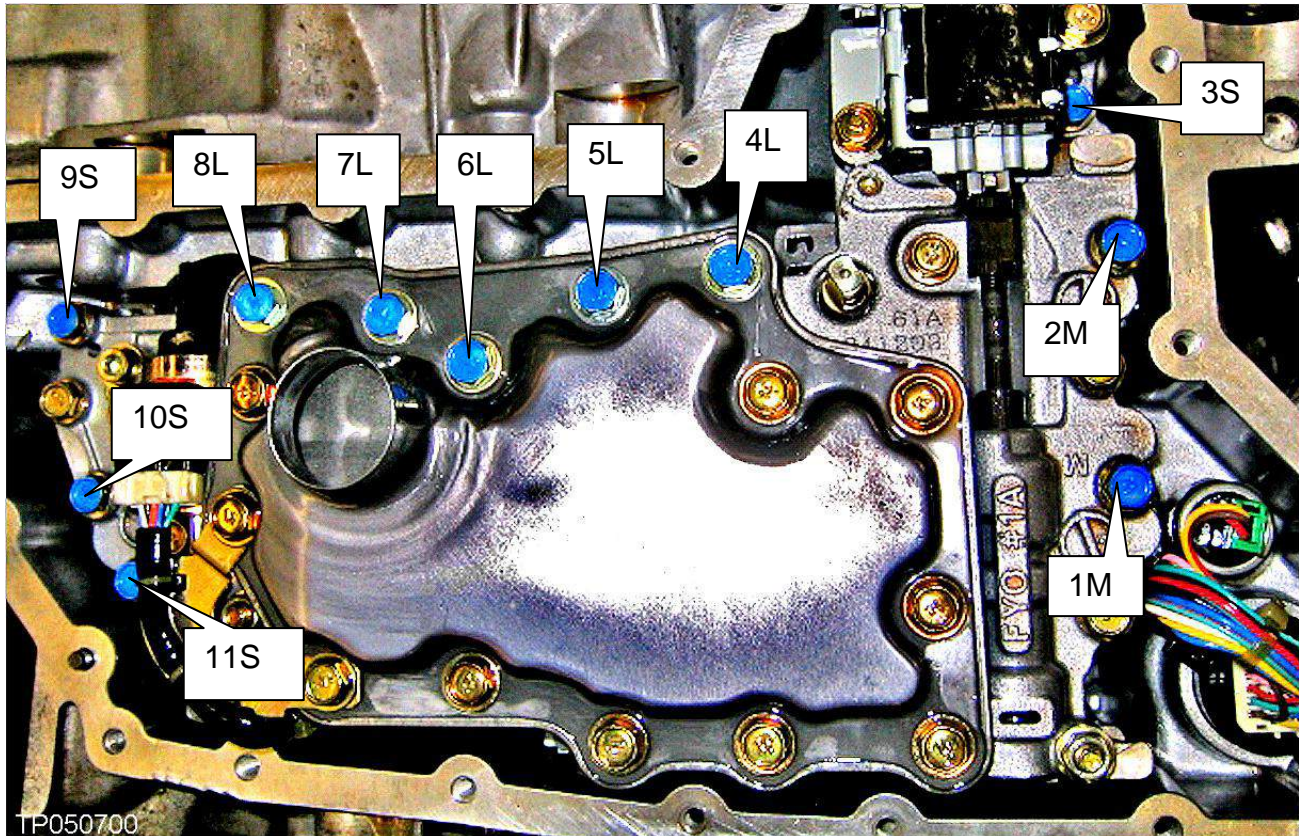

Figure 9
12. Remove the bolts attaching the valve body to the transmission (see Figure 9).
19. Install and torque the 11 valve body bolts removed in Step 12 (see Figure 9).
- Torque sequence as per Figure 9: 6-7-5-8-4-9-3-10-2-11-1.